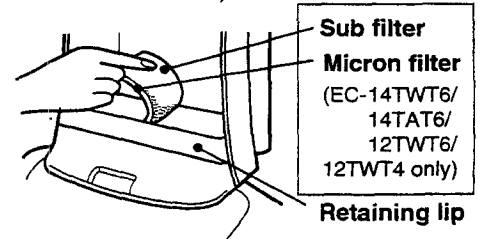

Fig. 19
- 2 Install the new filter as shown in Fig. 19.